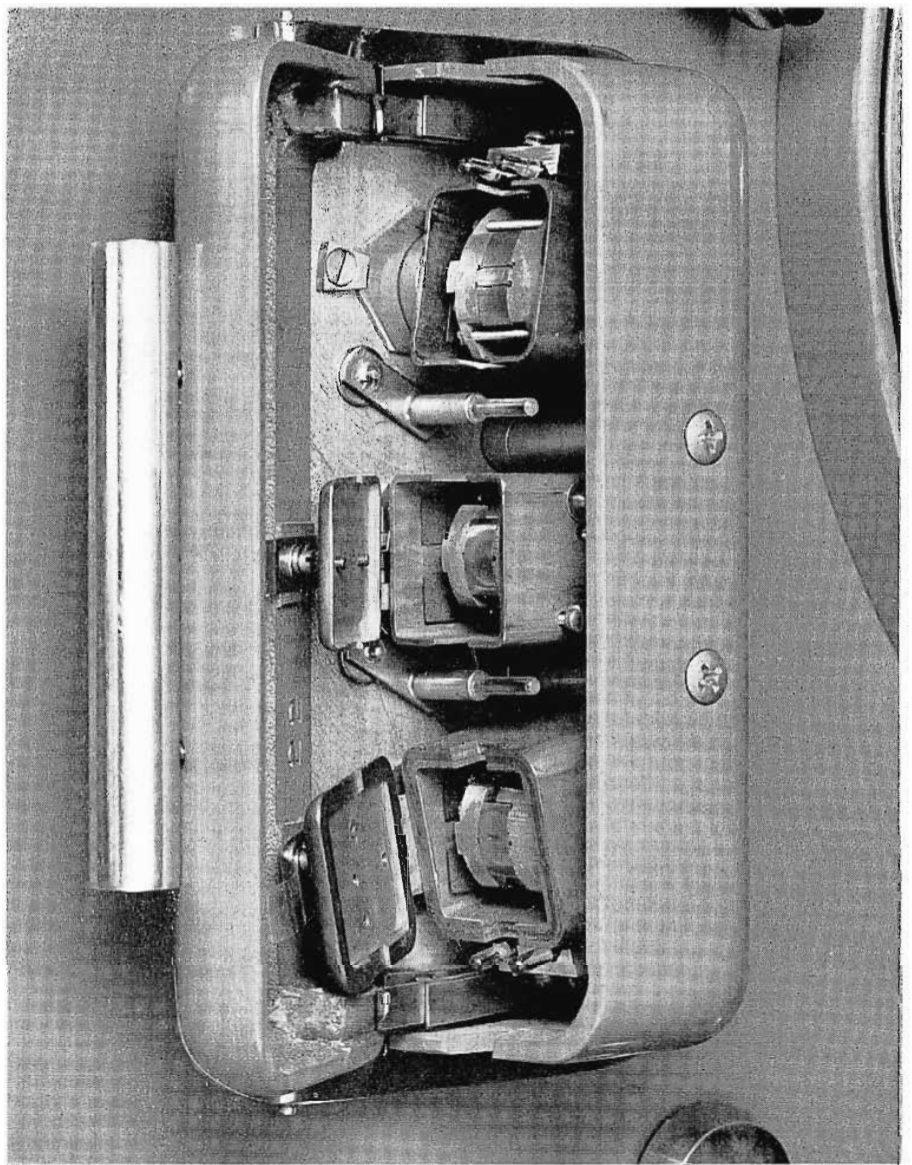

FIG. 9. Closeup view of the completely shielded, single-unit recorder head which accomplishes all three functions ("Erase," "Record" and "Reproduce").
1. ERASE—Fig. 9 gives a closeup view with the erase head at the top and the reproduce head at the bottom. The erase head core is made of .002" laminations of silicon steel. Silicon steel gives high flux density to increase the effectiveness of the erasure.